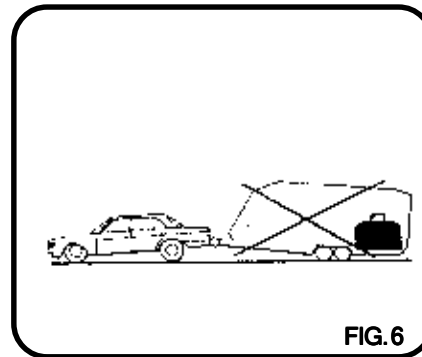

FIG.6
**.Load Too Far Back (Fig. 6)**